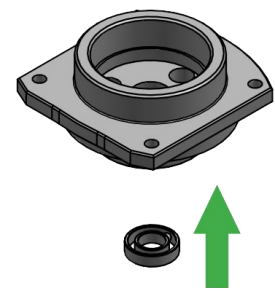

FIGURE 2 – Inserting Ball Race SKF 618/8
1. Insert the ball race SKF 618/8 into the large hole in the middle of the gearbox index plate. See figure 2.